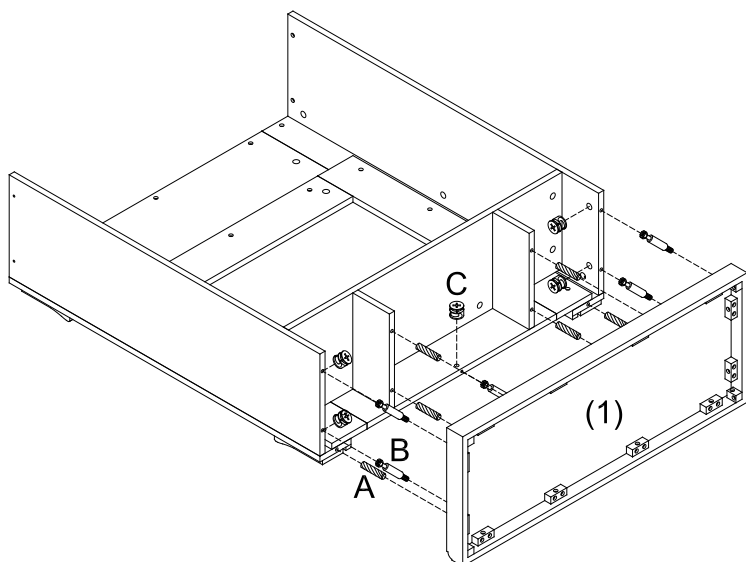

Figure 7
Connect Top Panel (8) to assembled unit on figure 7 with Screws (D)